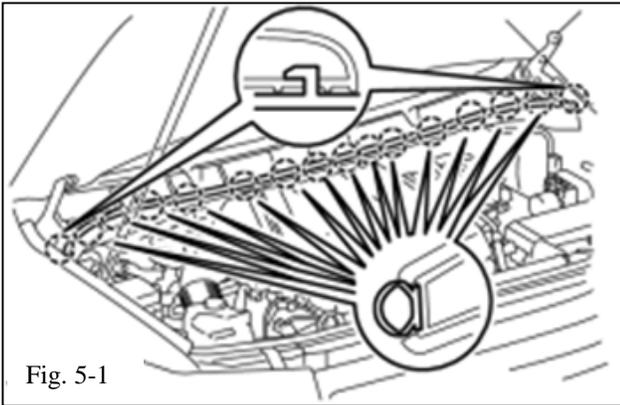

Fig. 5-1
- (a) Use a clip remover to detach the 16 claws and remove the cowl top seal (Fig. 5-1).